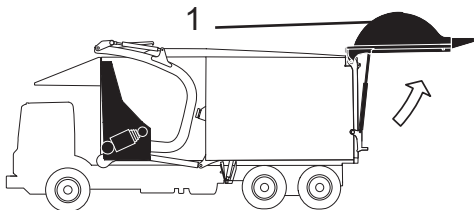

Figure 10
3. Open the tailgate fully (Figure 10, Item 1).